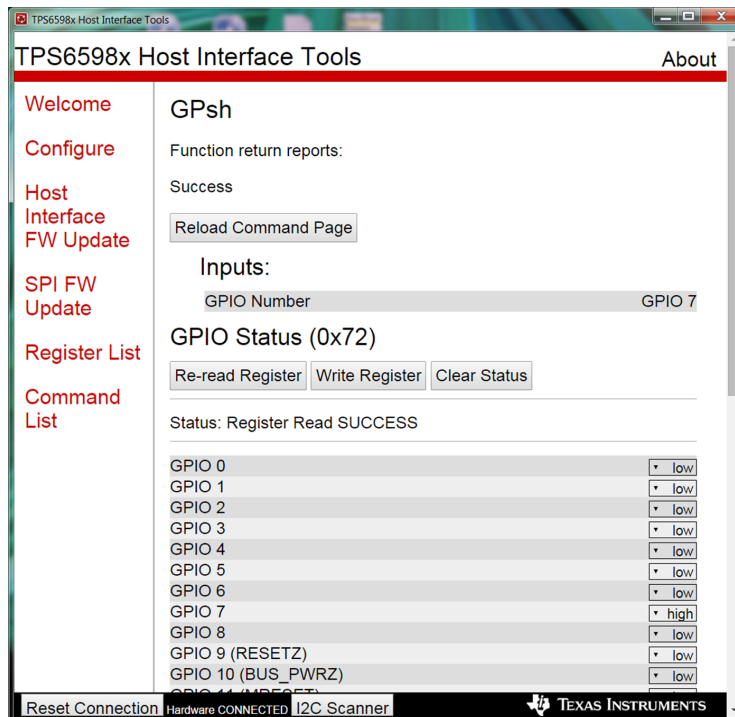

Figure 12. Using GPsh 4CC Command
- Step 2. Send GPsh 4CC command as shown in Figure 12.